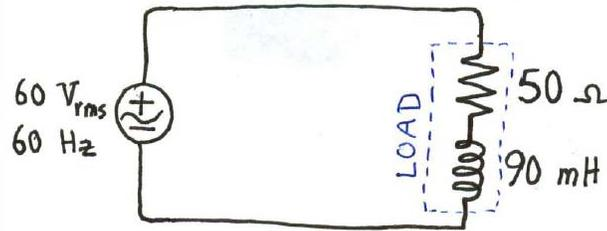

Figure 2
4. For the circuit of Fig. 2,
5. For the circuit of Fig. 2,